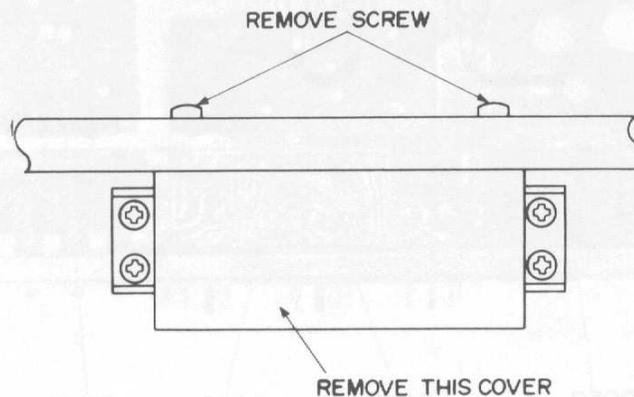

Figure 3. Remove the Terminal Cover
2. Remove the Transformer Wire Connection Terminal Cover, loosen two Cover mounting screws on the rear panel, see Fig.3 .